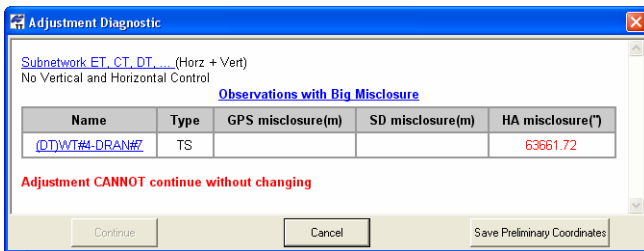

Figure 6-14. Messages After Comparing Observations with Corresponding Points
- For TS observations, if the difference in distances is more than 40 meters or in angles (horizontal or vertical) is more than 25 degrees, then the network adjustment is interrupted and the *Adjustment Diagnostic* dialog box displays (Figure 6-14).
- For GPS observations, if the difference in distances (computed as square root of sum of squared differences in all three coordinates) is more than 1000 meters, then the network adjustment is interrupted and the *Adjustment Diagnostic* dialog box displays (Figure 6-14).